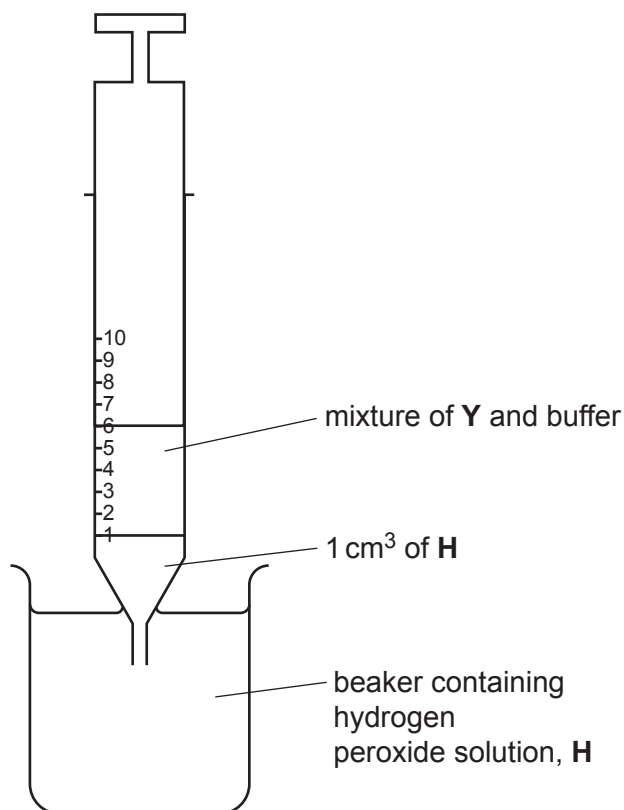

Fig. 1.4
12. Pull the plunger out to the 6 cm^3 mark so that approximately 1 cm^3 of **H** enters the syringe, as shown in Fig. 1.4.